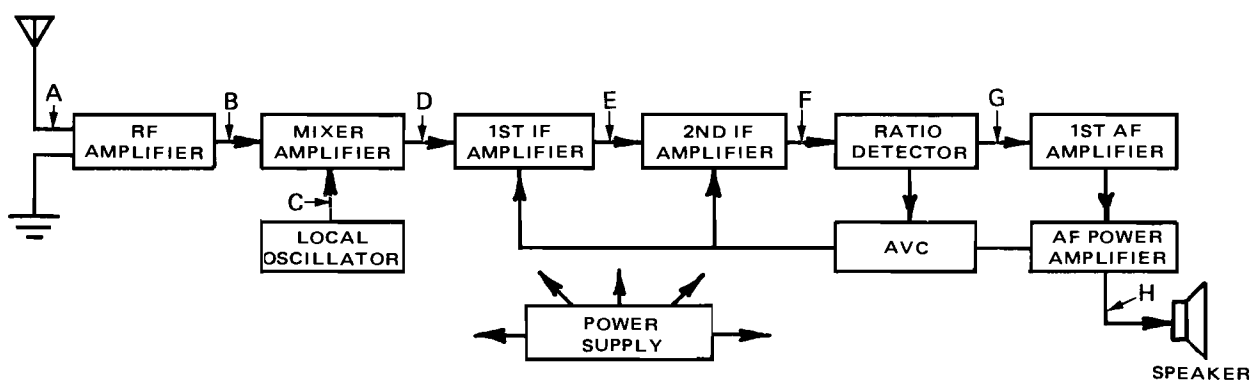

Fig. 20-5-1
1. Refer to block diagram of an FM receiver in Fig. 20-5-1. Note that each block is labeled to designate
3. Again refer to Fig. 20-5-1. Assume that a 1 kHz audio tone is used to modulate an FM station operating at 100 MHz. If you pick up the 1 kHz tone at test point A, what frequencies will appear at points B, D, E, F, G, and H? Assume, too, that the local oscillator is producing a fre-
1. If your laboratory is equipped with an FM receiver, a schematic diagram of receiver, and an FM signal generator, you may want to inject a representative test signal at key test points of Fig. 20-5-1. Your instructor will assist you in preparing for this procedure.